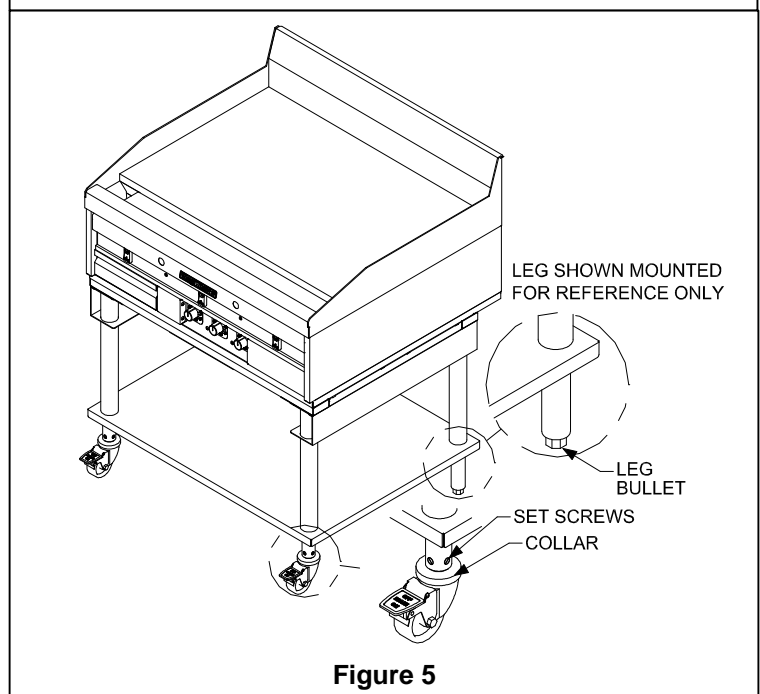

Figure 5
2. **Legs-** using a wrench, or pliers turn the leg bullet, See Figure 5, CCW to raise the height of the equipment stand. There is 1/2" to 3/4" of adjustment.
Castors- Using a Flat Head screwdriver, loosen the set screws of the caster to be leveled, See Figure 5. Turn the collar of the caster CCW to raise the height of the equipment stand. There is 3/4" of adjustment.